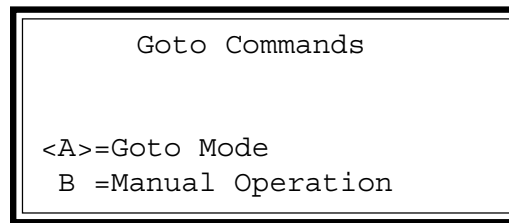

Figure 6-47 Go To Commands Screen
- Press SHIFT-GOTO. The 3100 displays the screen shown in Figure 6-47.